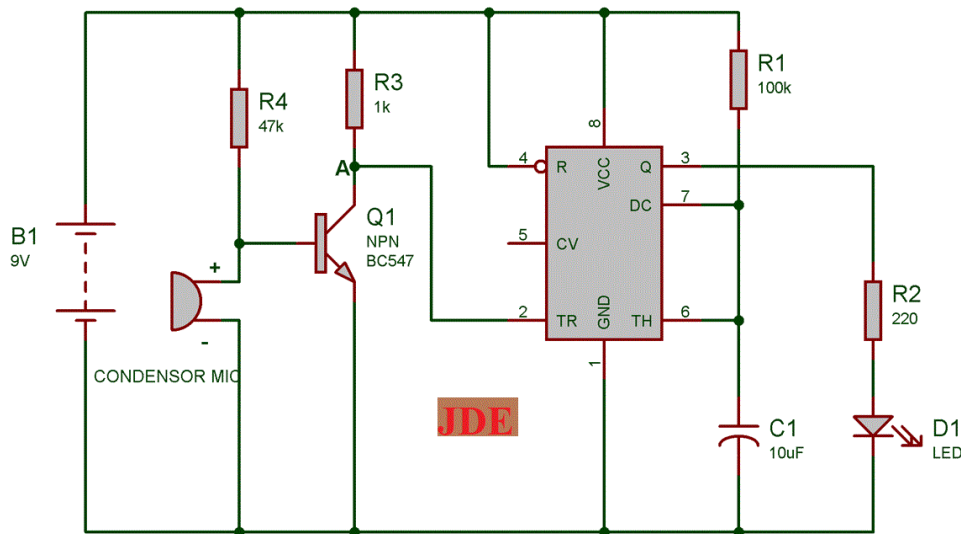

Figure 3.11: A clap switch circuit involving a timer
3. **A practical application of timers:** Figure 3.11 is a clap switch circuit. It is a typical example of the application of the 555 timer.